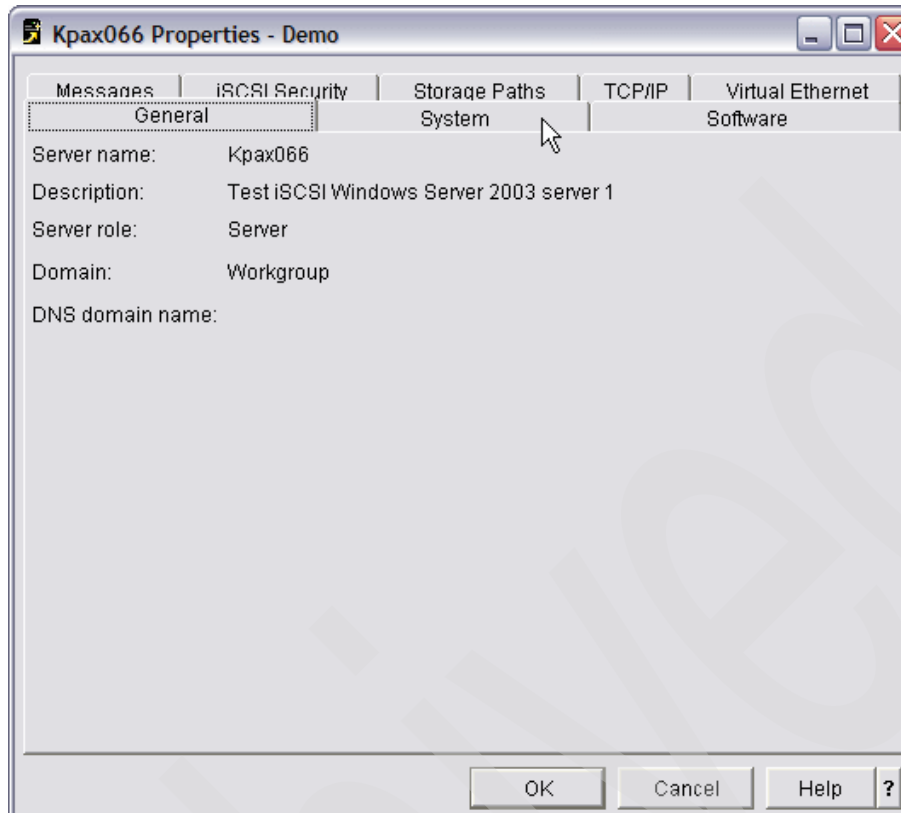

Figure 6-61 General tab NWSD Properties
► **General Tab Information for general information of this integrated server (Figure 6-61 on page 209):**